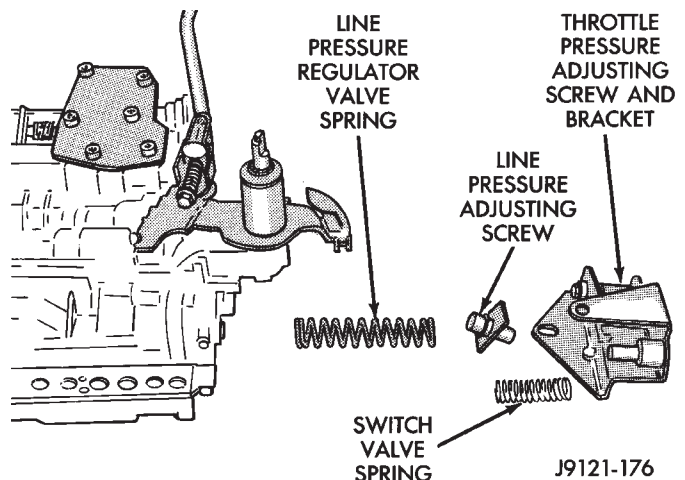

Fig. 107 Adjusting Screw Bracket And Spring Removal
- (1) Remove screws attaching adjusting screw bracket to valve body and transfer plate. Hold bracket firmly against spring force while removing last screw.
- (2) Remove adjusting screw bracket, line pressure adjusting screw, pressure regulator spring and switch valve spring (Fig. 107). **Do not remove throttle pressure adjusting screw from bracket and do not disturb adjusting screw settings during removal.**